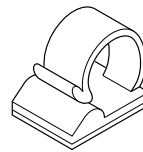

Figure 27 - Adhesive-backed Mounting Clip
2. The adhesive-backed mounting clip (see Figure 27) is attached to the thermostat sensing bulb. Remove the adhesive-backed mounting clip.